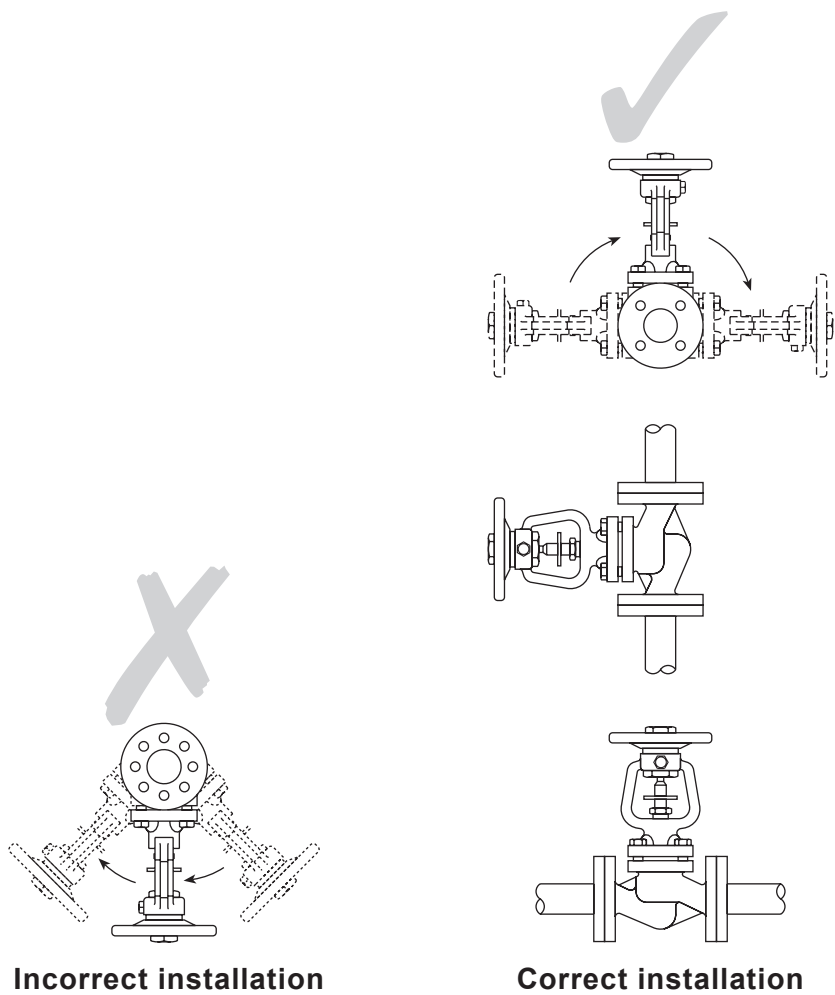

Fig. 6
- 3.3** Install the valve in the direction of flow given by the arrow on the body. The preferred position is with the spindle vertical. The valve can be installed from the vertical to the horizontal plane (see Figure 6).
- (See Figure 6) The pre-lifting plug (A) acts as a pilot valve and is opened first, allowing the medium to pass through at a controlled rate. The differential pressure then reduces across the valve - allowing the main valve plug (B) to be easily lifted off its seat. To assist closing the valve the flowing medium must enter on the 'Bellows' side, this is the opposite to normal installation.